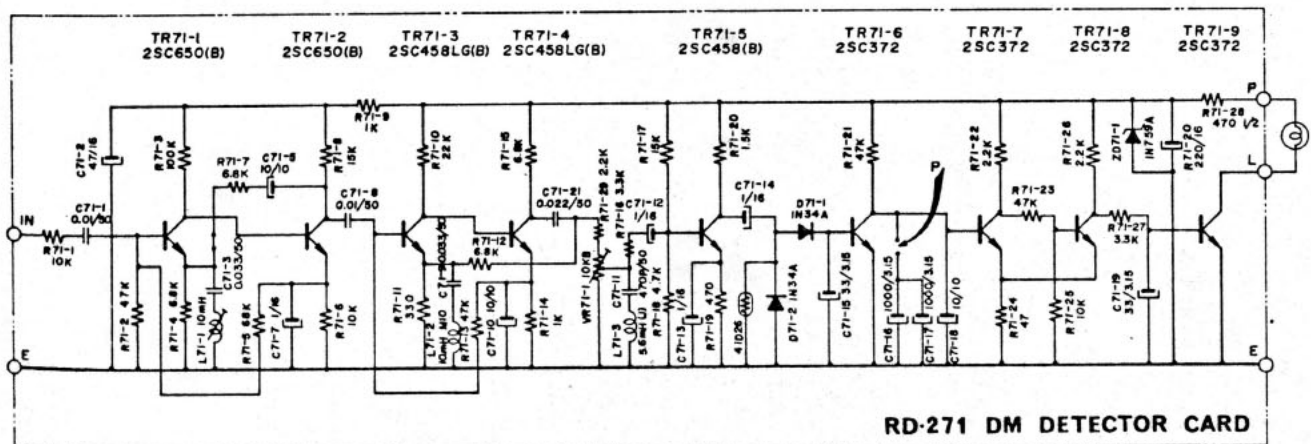

Fig. 5
- Before adjustment, remove the solder at point P (Time Delay circuit of 15 seconds) which is shown in Figs. 5 and 6.
- Solder Point P as shown in Figs. 5 and 6. After soldering, the DM Indicator Lamp should light after 15 seconds following the stoppage of input signal to the DM Detector circuit.